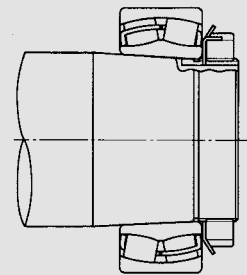

Fig. 6.25 Assembly view
b) Hydraulic nut method (Fig. 6.25 and Fig. 6.26)